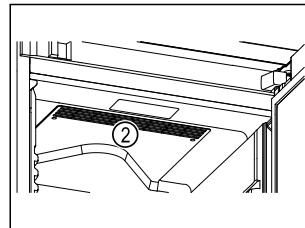

Fig. 65
- Ventilation slots Fig. 65 (2) for recirculation fan in the interior must be kept clear.